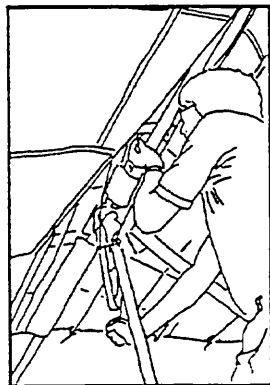

Figure 77
- 4) At the control bar apex, pull the hang loop spreader bar downwards as far as it will go. Detach the crossbar safety restraint cable and replace the nut and safety on the bolt. Use the perlon as you did during set up to pull the crossbar back and take the load off the VG activation cable. Detach the VG activation cable by removing the ball lock pin and re-install the pin in the activation cable tang for storage. (Figure 77, 78)